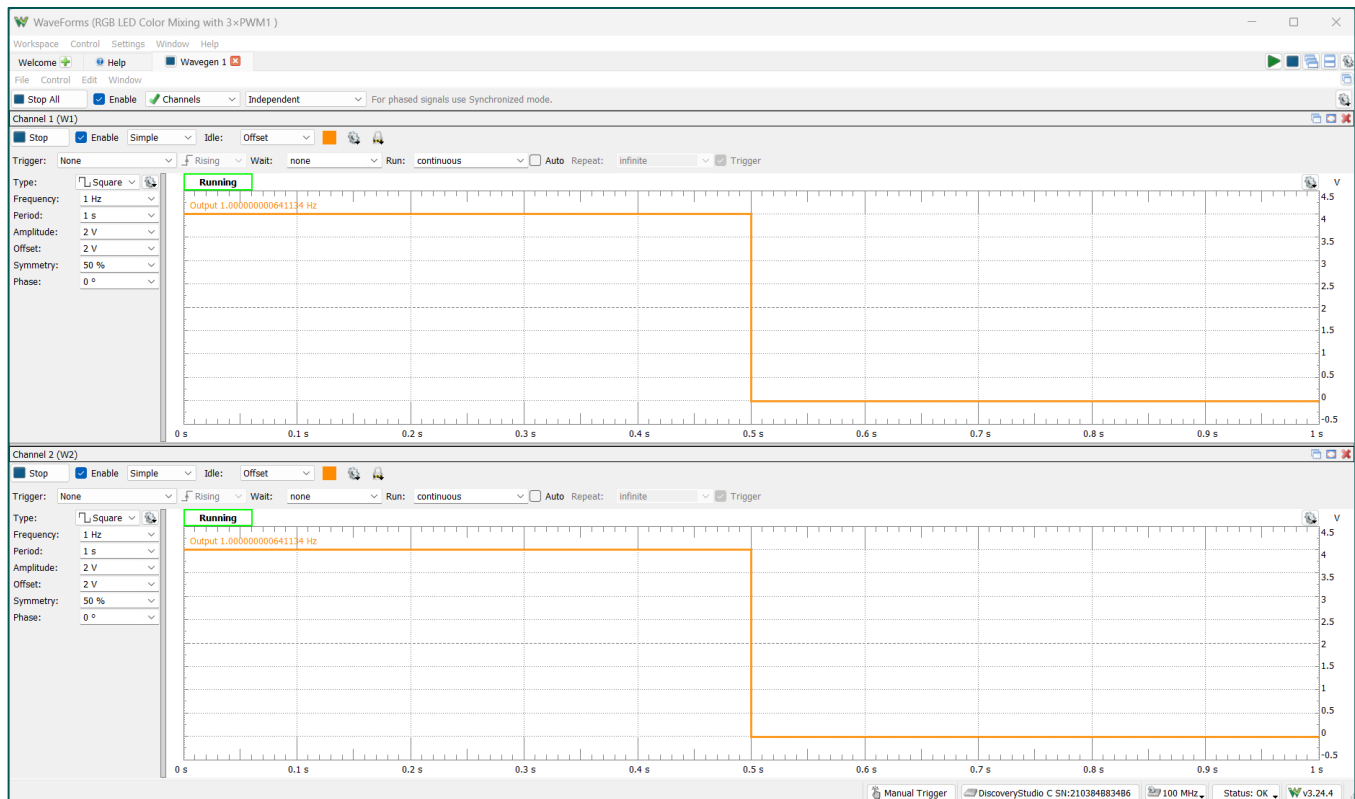

Figure 4a. Analog Discovery 3 – RGB Output Configuration Using W1 and W2
- **Channel 1 (W1)** → Red LED branch (**Figure 4a**)
- **Wavegen W1** → Red LED branch (**Figure 4a**)
- **Wavegen W1** → Red LED branch (Figure 4a)